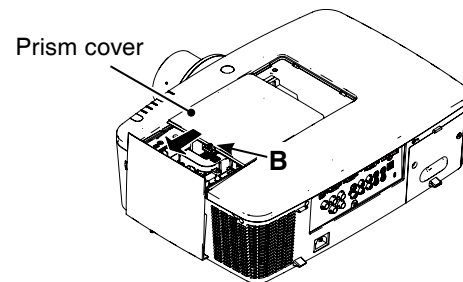

Fig. 2
- 2** Loosen a screw-B on the prism cover and slide it in the arrow direction (Fig. 2).